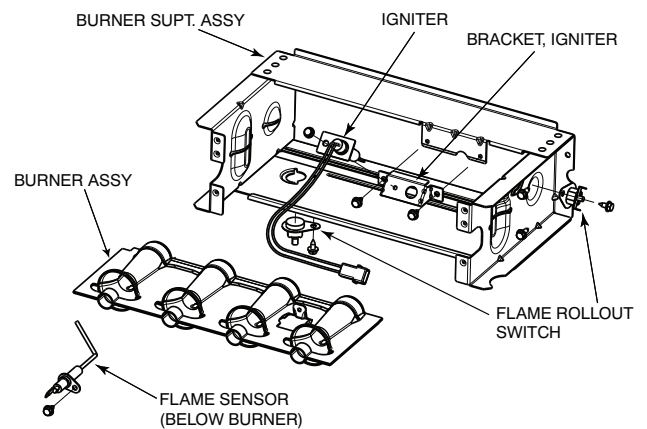

Fig. 3 - Burner Assembly
5. Remove wires from both rollout switches. See Fig. 3.